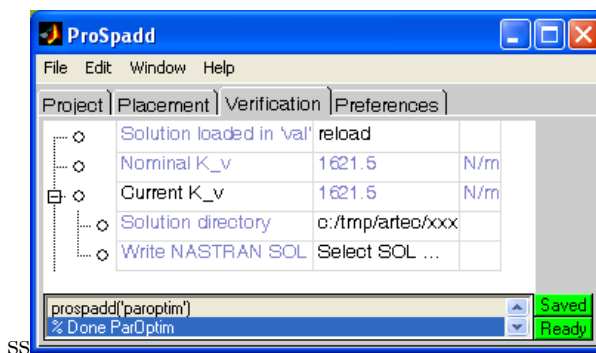

Figure 1.8: Verification tab.
3. Go to the verification tab and click on the `Import SOL103` button. ProSPADD will then show information similar to that in figure 1.8.